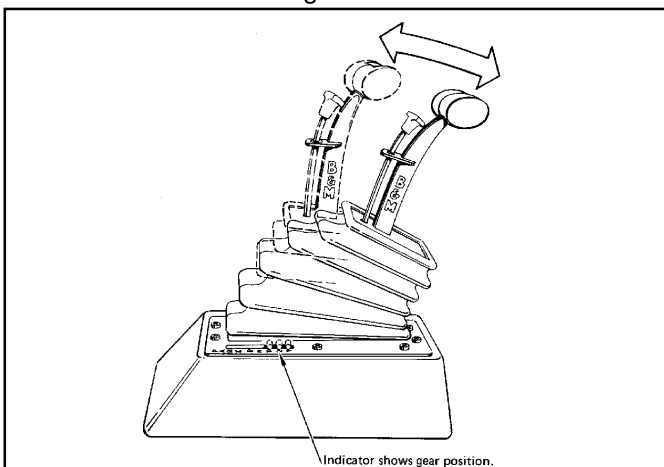

Figure 13
**1-2 Upshift:** Push the stick forward with a quick firm push until it hits the internal stop. Do not lift the trigger. Release the stick and allow the spring to return it to the rear position. The transmission is now in the second gear position, ready for the 2-3 upshift (See Figure 13).